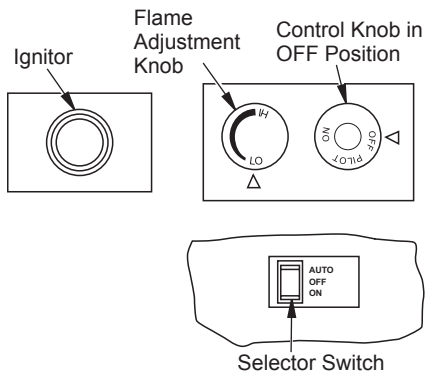

Figure 37 - Control Knob, Ignitor Button and AUTO/OFF/ON Switch
4. Press in and turn control knob clockwise  to the OFF position (see Figure 37, page 23).
5. Wait five (5) minutes to clear out any gas. Then smell for gas, including near the floor. If you smell gas, STOP! Follow "B" in the safety information, column 1. If you don't smell gas, go to the next step.
6. Press in and turn control knob counterclockwise  to the PILOT position. Press in control knob for five (5) seconds (see Figure 37).